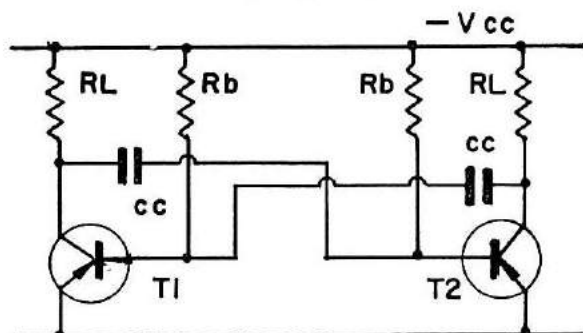

FIG. 2
*Line 3.* Enter torque, read from the constructed torque curve as in Fig. 2.
It is possible to make a transistor multivibrator perform both functions of mark space generator and frequency generator. However there are various troubles, which I will briefly describe. The outcome of the faults are that variation of mark space ratio varies the frequency and sometimes vice versa. It is advisable to keep  $R_c \propto R_b$  (Fig. 2) in order to keep the collector waveforms reasonably square. This means that  $R_c$  must be varied in conjunction with  $R_b$ —i.e. a gauged pot is desirable.